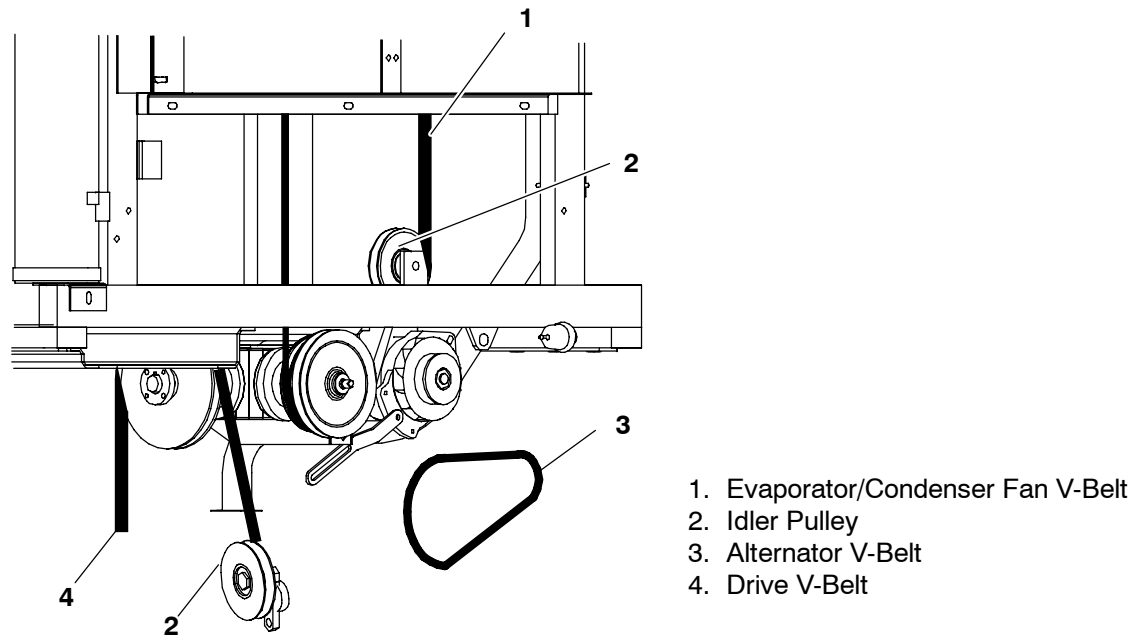

Figure 8-9. V-Belt Arrangement
The belt tension gauge can be used to adjust all belts. The readings which we specify for Carrier Transicold units are applicable only for our belts and application, as the tension is dependent on the size of the belt and distance between sheaves. When using this gauge, it should be placed as close as possible to the midpoint between two sheaves. (See Figure 8-9)
- Remove old belt and replace with new belt. (See Figure 8-9)